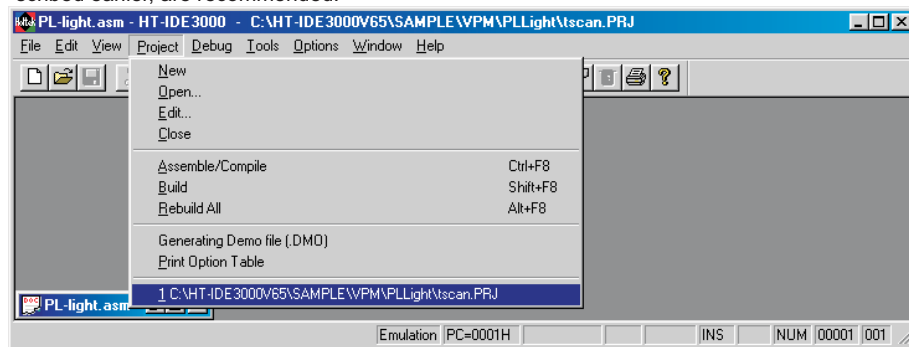

Fig 4-1
In the Project menu (Fig 4-1), select the New command to create a new project. In this command, the user needs to key in or select two pieces of information for the new project, namely the Project
The HT-IDE3000 can work with only one project at a time, which is the opening project, at any time. If a project is to be worked upon, the project should first be opened, by using the Open command of the Project menu (Fig 4-1). Then, insert the project name directly or browse the directories and select a project name. Use the Close command to close the project.
- Click either the Build command of the Project menu or the Build button on the toolbar (Fig 4-1) to start building a project
- Click either the Rebuild All command of the Project menu or the Rebuild all button on the toolbar (Fig 4-1) to start building a project